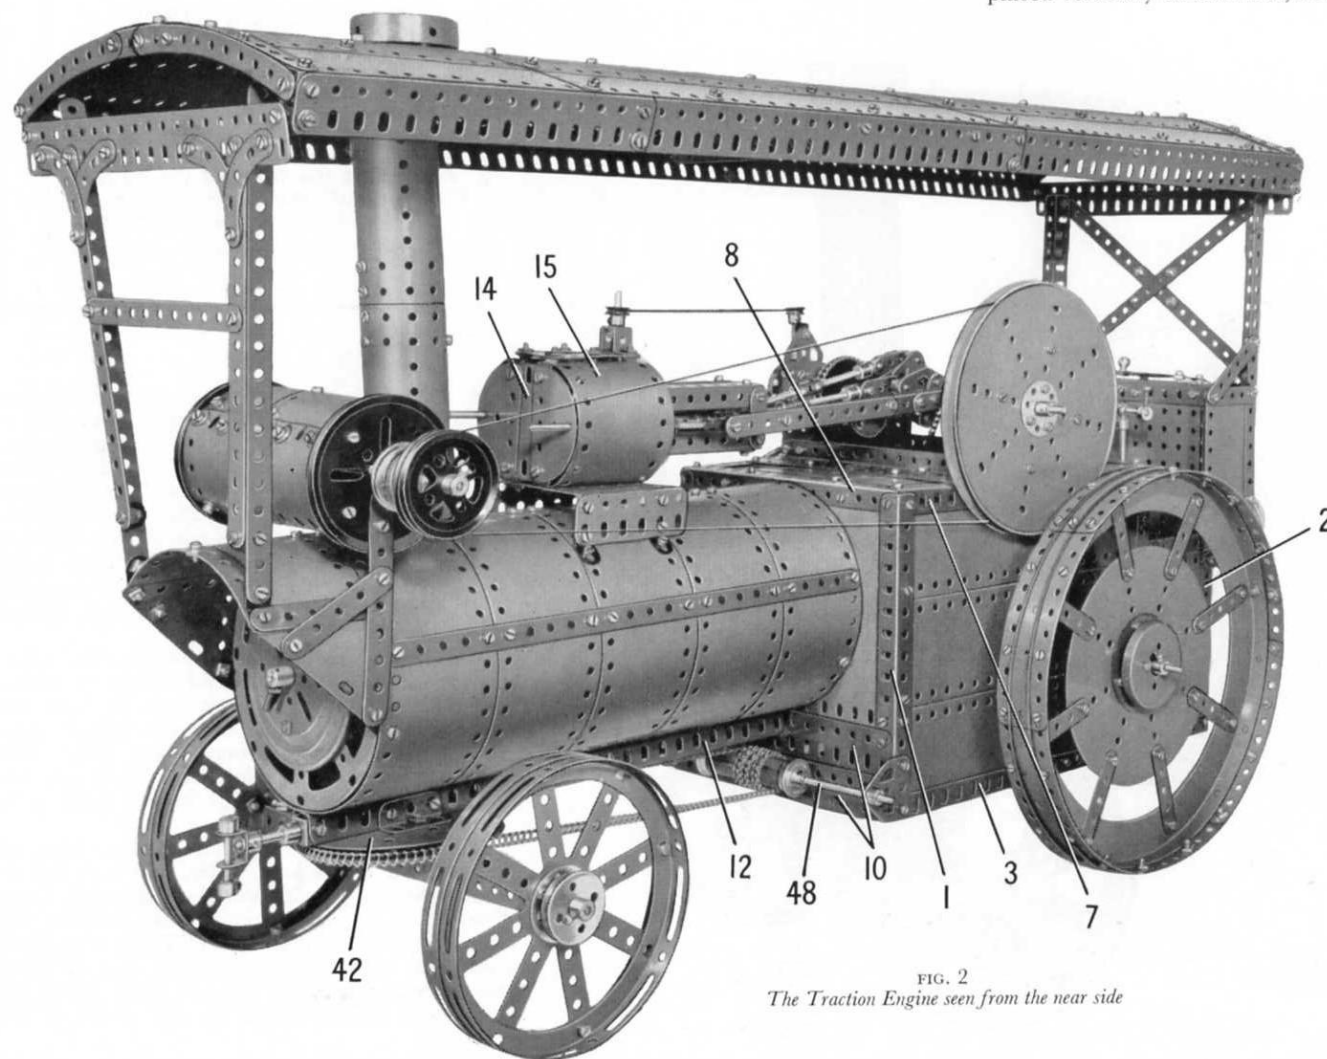

FIG. 2
The sides are connected together at the front by a $7\frac{1}{2}$ " Angle Girder (8) (Fig. 6), and a similar Girder (9) (Fig. 4). The front is partly filled in by a $5\frac{1}{2}$ " \times $2\frac{1}{2}$ " Flexible Plate placed vertically at each side, and by two $7\frac{1}{2}$ " Flat Girders (10) (Fig. 2).
The boiler is built up on two $12\frac{1}{2}$ " Angle Girders bolted together to form a channel section girder (12). The boiler consists of five built-up plates, each made from a $12\frac{1}{2}$ " \times $2\frac{1}{2}$ " Strip Plate and a $5\frac{1}{2}$ " \times $2\frac{1}{2}$ " Flexible Plate bolted end to end and curved to shape. A $12\frac{1}{2}$ " Angle Girder is fixed inside the boiler diametrically opposite to the girder (12) and two $12\frac{1}{2}$ " Strips are bolted along the sides. The front and rear ends of the boiler are Hub Discs, but before the front is fixed in place the rear Hub Disc should be bolted to the Girders (8) and (9) of the body (Figs. 2 and 4). At the front the Flanged Disc of a Ball Thrust Bearing is bolted to the Hub Disc, and a Threaded Pin is fixed in a Threaded Boss that is mounted on a $\frac{1}{2}$ " Bolt.
The Cylinder Unit (Figs. 2 and 3)
The front end of the cylinder block is made from a $2\frac{1}{2}" \times 1\frac{1}{2}"$ Flexible Plate (14) (Fig. 2) fitted along its longer edges with Semi-Circular Plates, and the rear end is formed by two Semi-Circular Plates.
The Rear Wheels (Figs. 2 and 4)
The Front Axle and Steering Assembly (Figs. 2, 4 and 8)
The complete axle is attached to the Toothed Disc of a Ball Thrust Bearing by bolts that secure also a Double Arm Crank. A $2\frac{1}{2}$ " Rod fixed in the Double Arm Crank is passed through a Bush Wheel and a 4" Circular Plate (42) (Fig. 2), which is bolted to $1\frac{1}{2}$ " Angle Girders fixed to the girder (12). The $2\frac{1}{2}$ " Rod passes inside the boiler and is held in place by a Collar.